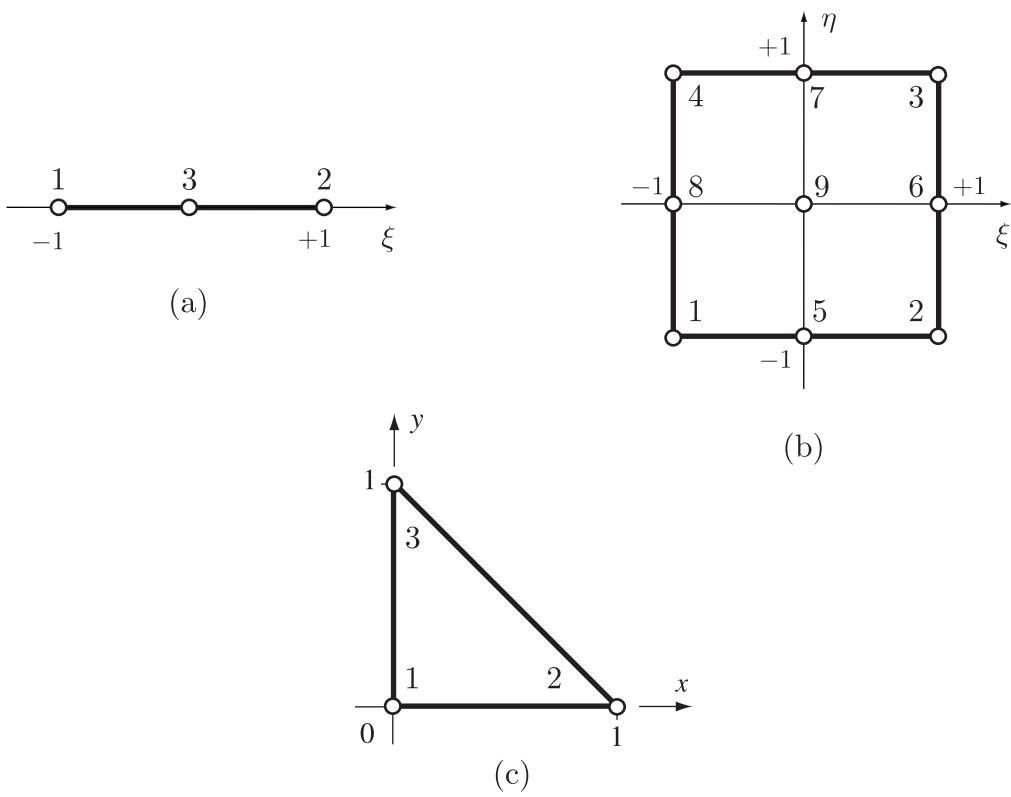

Fig. 2
- 3 (a) Determine and sketch the shape functions for the nodes 1, 2 and 3 of the three-noded finite element shown in Fig. 2(a). [5%]
- (b) Determine the shape functions for the nodes 3, 9 and 8 of the nine-noded finite element shown in Fig. 2(b). [15%]
- (ii) Determine the stiffness matrix of the three-noded finite element shown in Fig. 2(c). [40%]